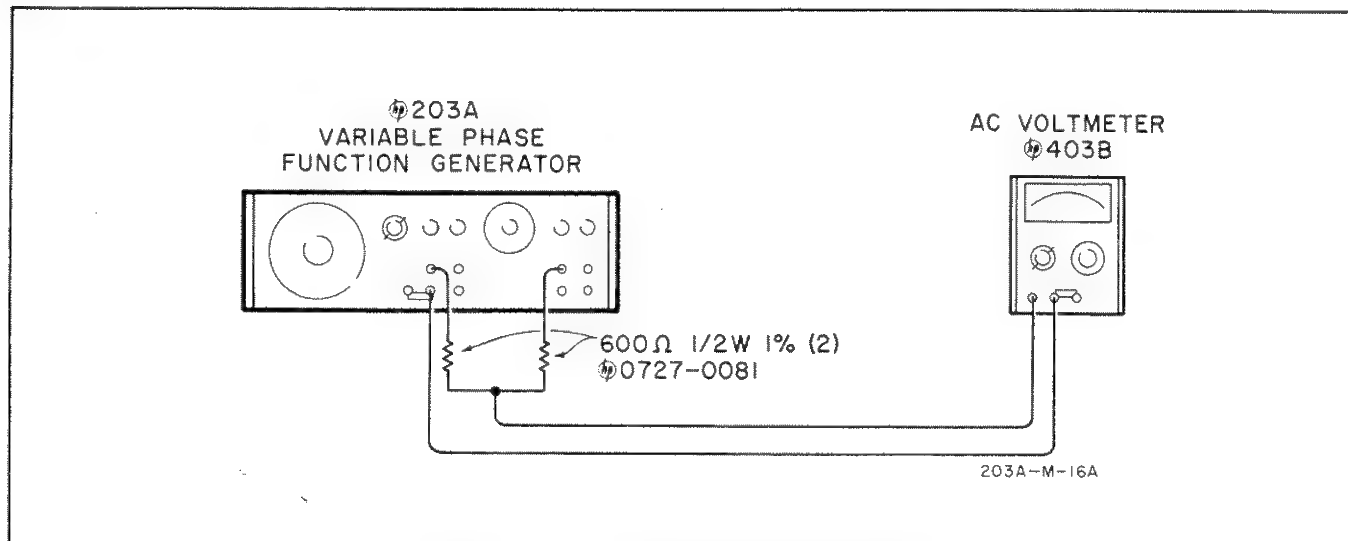

Figure 5-6. Phase Lag Dial Adjustment
a. Connect Model 203A as shown in figure 5-6.